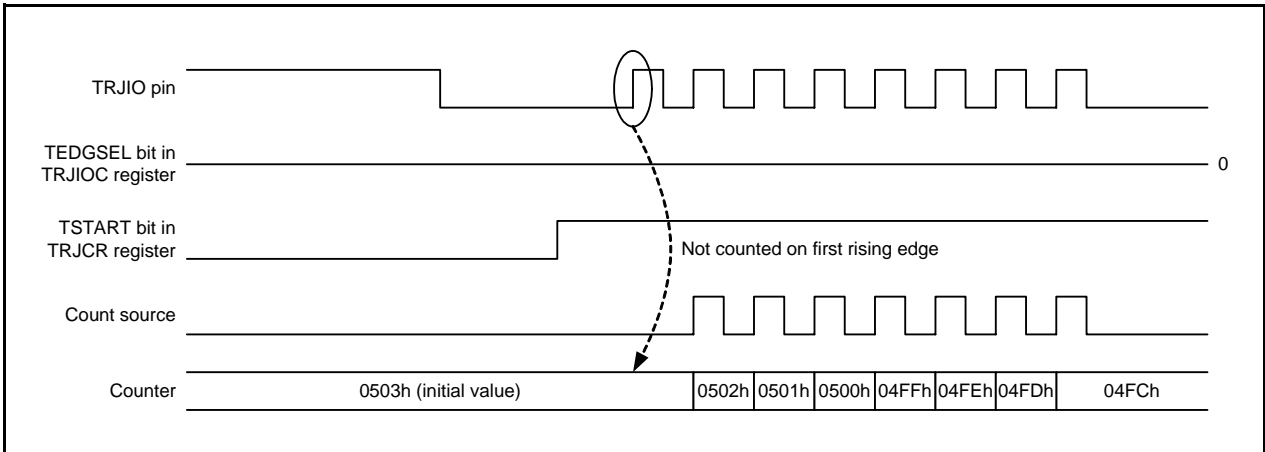

Figure 13.8 TSTART Setting Timing in Event Counter Mode (1)
- (8) When the TEDGSEL bit in the TRJIOC register is set to 0 (count on rising edge) and the external signal (TRJIO) is counted in event counter mode, the signal may not be counted correctly depending on the state of the TSTART bit in the TRJCR register (see Figure 13.8).